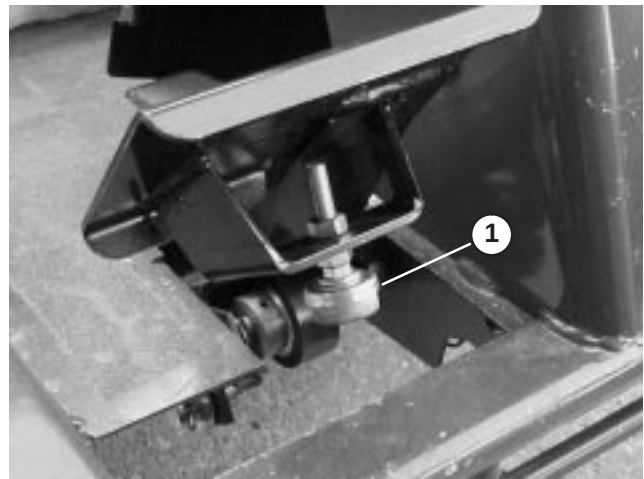

Figure 52
1. Check the traction pedal stop adjustment. The pedal stop (Fig. 52) should contact the frame slightly before the pump reaches full stroke.